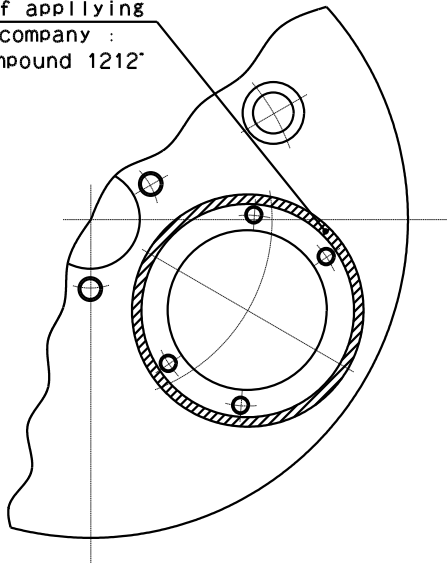

Fig.4-4
⑦After remove the old sealing compound, moisture, oil stain, and others, apply the new sealing compound “Three bond company : Seal compound 1212” to the body and the fitting surface of spherical bushing. (See Fig.4-4)
⑧Fix the spherical bushing set in the jig. With the key flute, set the spherical bushing in the body-engaged hole and insert it, striking the front of jig. When the back of jig comes in contact with the front body, put together the bolt holes of spherical bushing before temporarily tightening the bolts. At this time, remove the jig from the spherical bushing, and tighten the bolts. (If the grease is in short supply, remove the hex. socket head less set screw from tap hole at the chuck periphery and lubricate the grease into the grease nipple with grease gun until the grease overflows from the tap hole.)